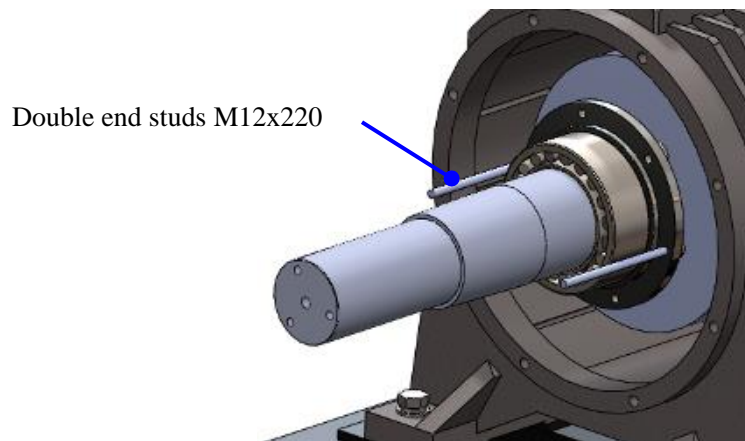

Figure 133: Install double end studs
4. Screw the double end studs M12x220 to the inner cover. See Figure 133.